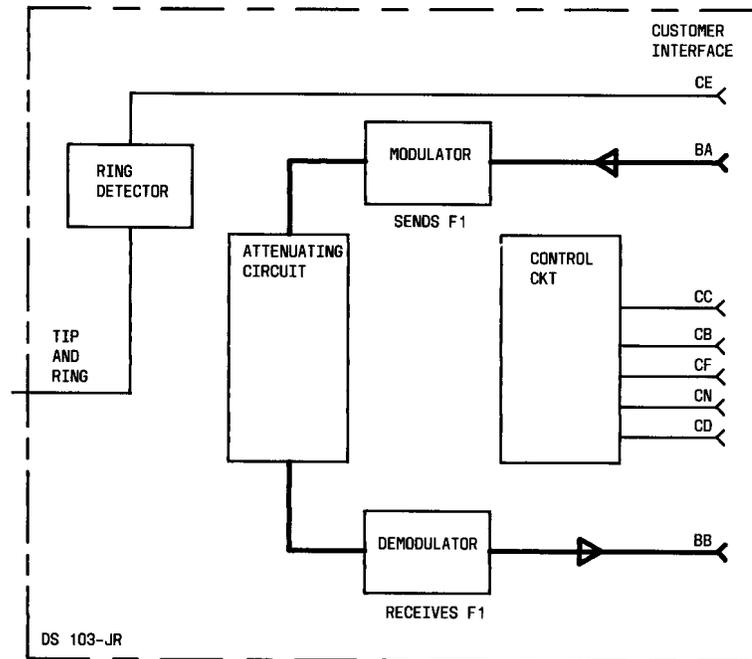

Fig. 1—Analog Loopback Test Mode
2.03 In the analog loopback test mode (Fig. 1), the data set is isolated from the telephone line, with the exception of the ring detector circuit. During this test the data set circuits are modified to keep both the transmitter and the receiver in the f1 mode. The output of the transmitter is looped via an attenuating circuit to the receiver.